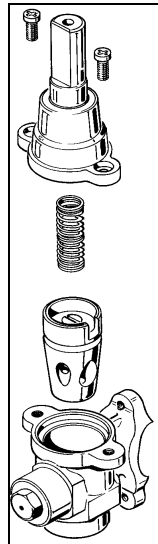

Fig.11
- 1) Dismantle the main part of the tap by unscrewing the two screws that can be found on the bar of the tap itself. (Fig. 11)